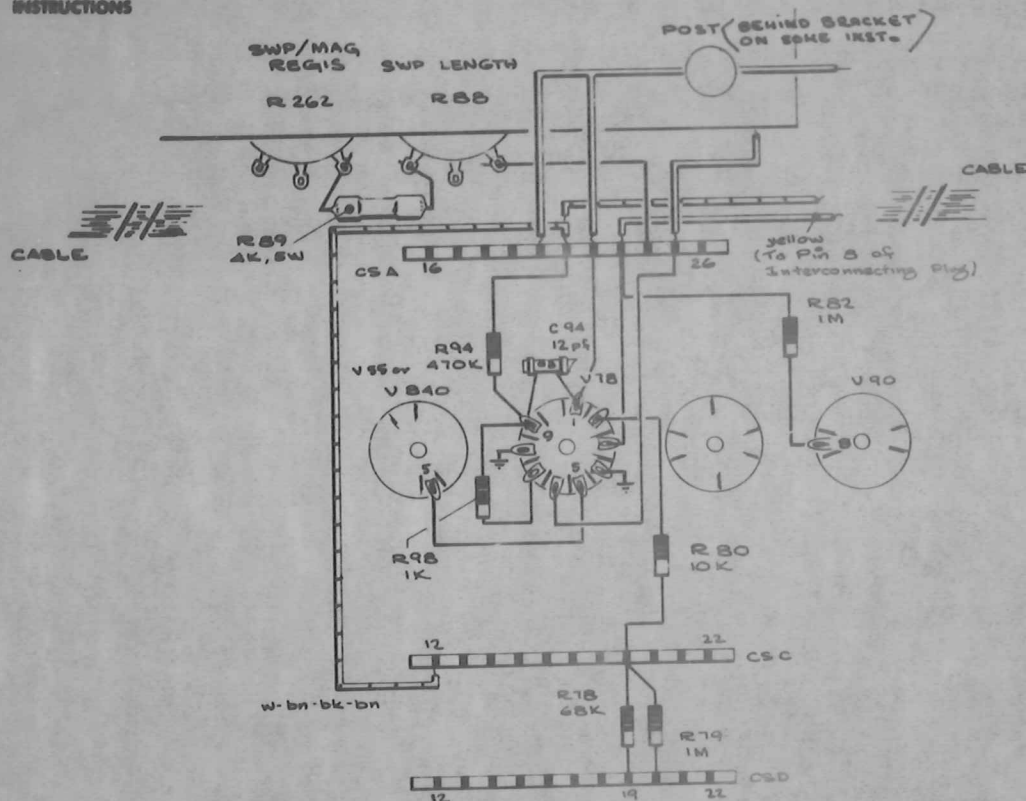

Fig. 1
1. Remove the following wires and components (see Fig. 1 for ceramic strip locations):
- () 5. Mount the 9-pin socket (from kit) with pins 4 and 5 nearest the outside of instrument. (See Fig. 1)
6. Install the following wires and components (from kit unless noted otherwise). (See Fig. 1)